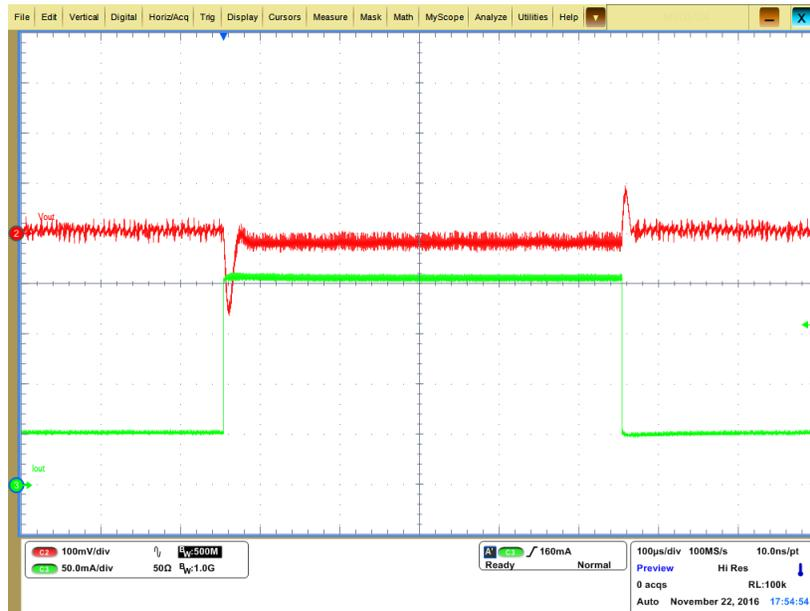

Figure 23. Load Transient Response, 14 V, 50 mA
- Load starts at 50 mA, goes to 210 mA, then returns to 50 mA (Figure 23)